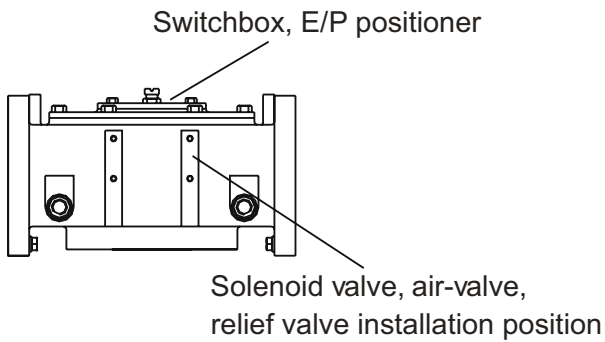

Figure 3
f. Dimensions and mounting positions of accessories refer Figure 3 & 4 below:
After the actuator is installed, Air Intake A (see Figure 3) activates the actuator, and then the position of the valve will be adjusted by rotating the limit screw (see Figure 3).
1. In the operation of the actuator, it is necessary to keep the Hole B (see Figure 3) clear.
By rotating the limit screw (see Figure 3), the start and end positions of the drive module can be adjusted when rotating, as to adjust travel by +/- 100. (This is factory set once installed on a valve. Do not adjust). Details shown in Section 3.3.